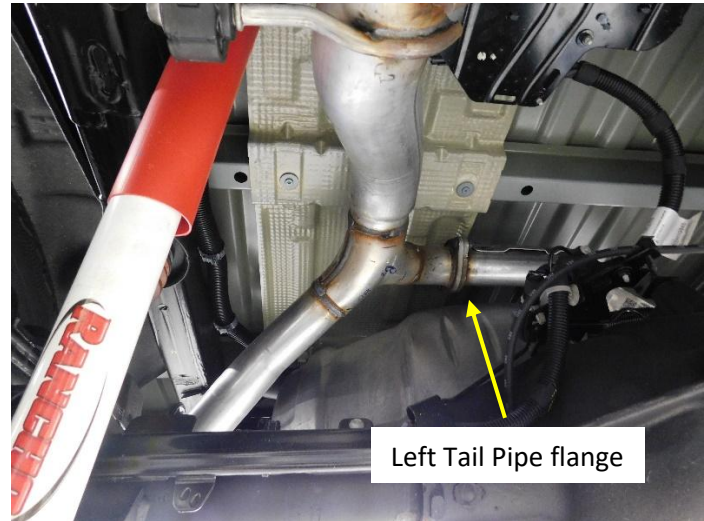

Figure.4
8. Remove the (x2) 13mm nuts at the flanged connection directly over the differential and remove the left tail pipe. **Fig.4**